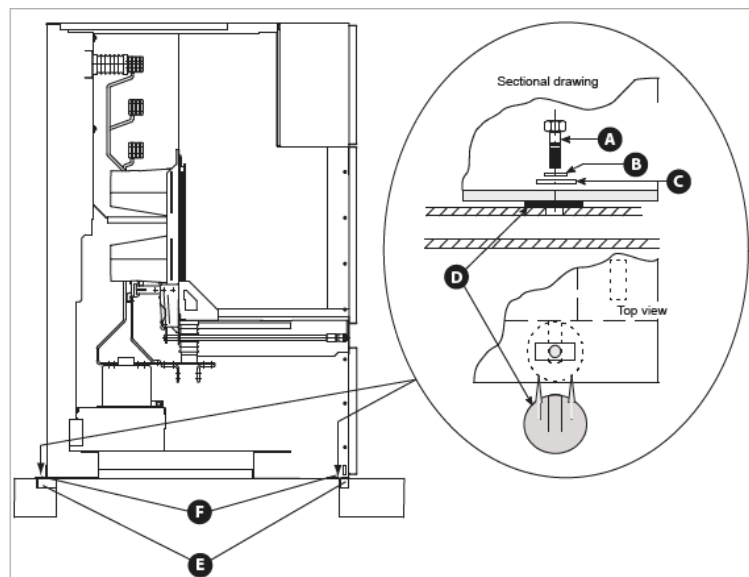

Figure 46
1. Drill holes (Ø 8.5 mm) into the base frame at the intended panel fastening points (Figure 46).